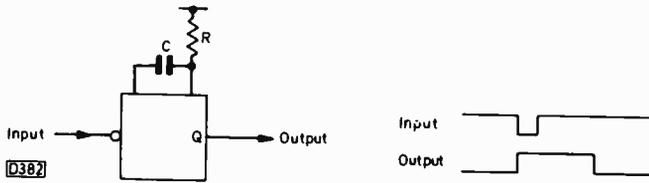

Fig. 17: Simple monostable.
**Monostable:** A monostable is basically a device for producing an output pulse when a required input condition is fulfilled. There are many variations on the theme, a typical example being shown in Fig. 17. This device gives an 0-1-0 pulse for every 1-0 edge at its input. Note the circle at the input showing that it's low triggered. The width of the output pulse is usually determined by an external resistor and capacitor, and the time is generally of the order of 0.7RC.